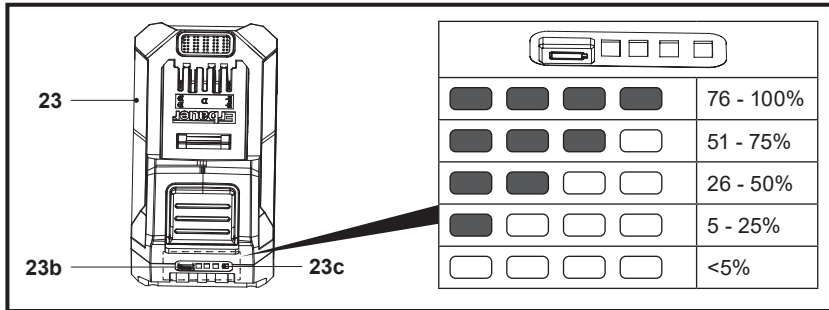

Fig. 9
The battery pack (23) is equipped with battery capacity indicators (23c) which are used to give an indication of the battery pack's remaining capacity. Press the battery capacity button (23b) to check battery capacity (Fig. 9). The LEDs will stay lit for approximately 3 seconds.